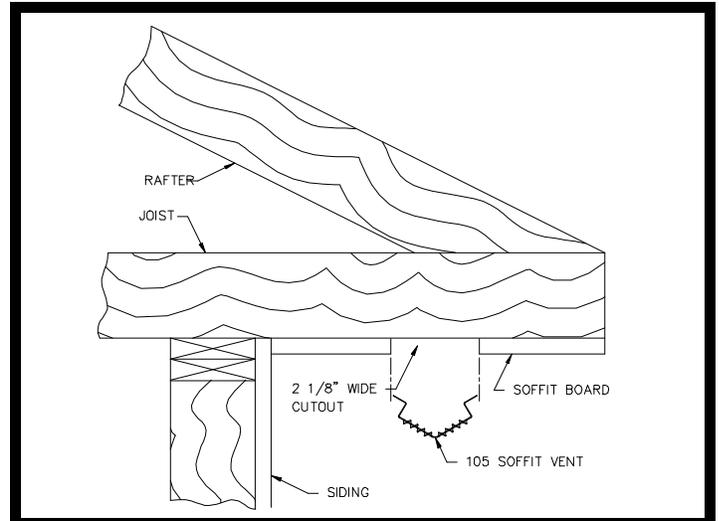

Figure 2
**STEP-3** Squeeze 105 together slightly so it will fit through the cutout slip 105 into the cutout and release, the 105 should now return to it's original shape. (See Fig. 2)